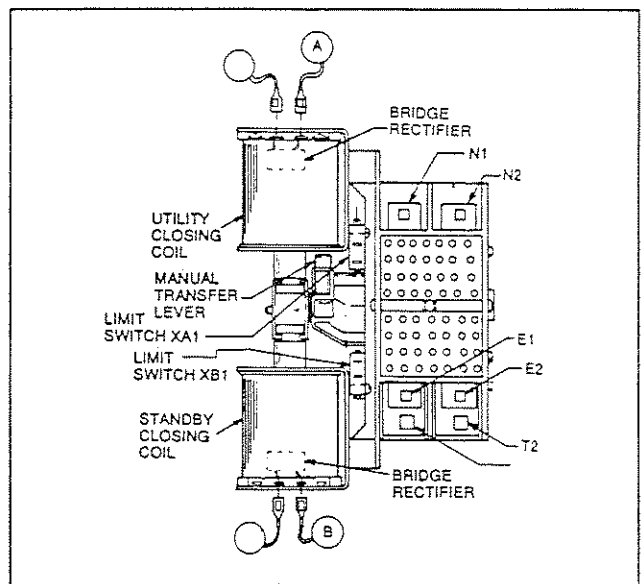

Figure 1. The "V-Type" Transfer Mechanism
2. On the standby closing coil, locate the two terminals to which Wires E1 and E2 connect (Figure 1). Use an accurate AC voltmeter (or a VOM) to check the voltage across these two terminals. Generator line-to-line voltage must be indicated.